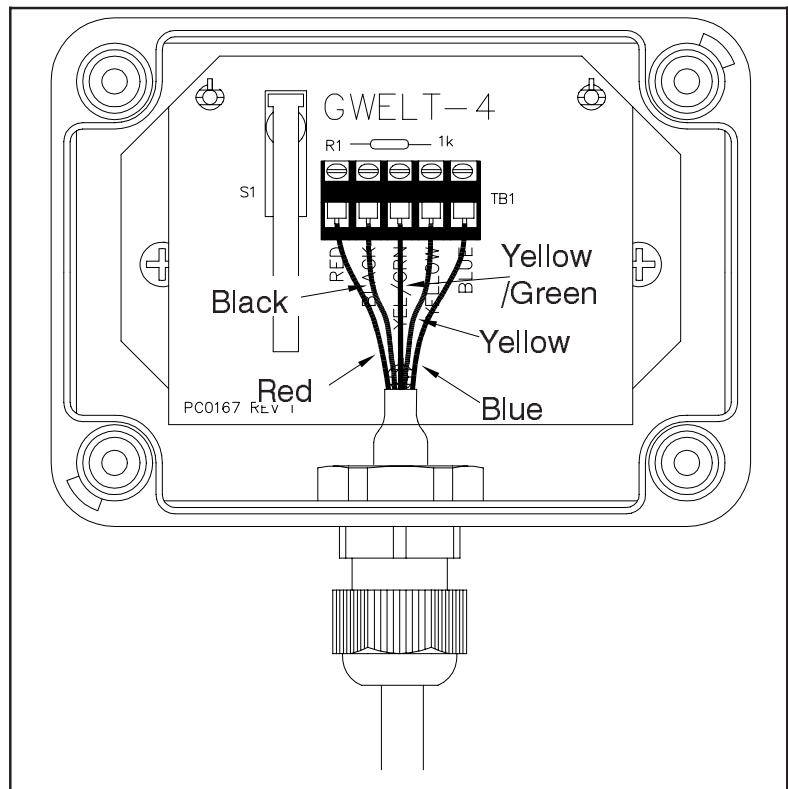

Figure 32
4. Connect the sensor cable tails to the terminal blocks ensuring that the cable tail colours match the screen printing. See Figure 32.